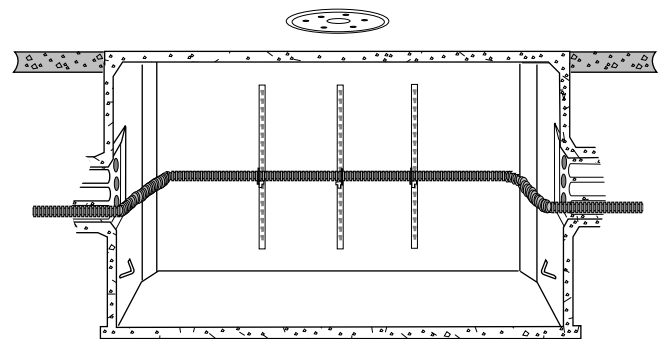

Figure 18 Racking of continuous innerduct
**6.23** At points where the innerduct is continuous through the manhole, push the innerduct and cable to the rack and secure with appropriate cable ties (Figure 18). Maintain the cable’s minimum bend radius.